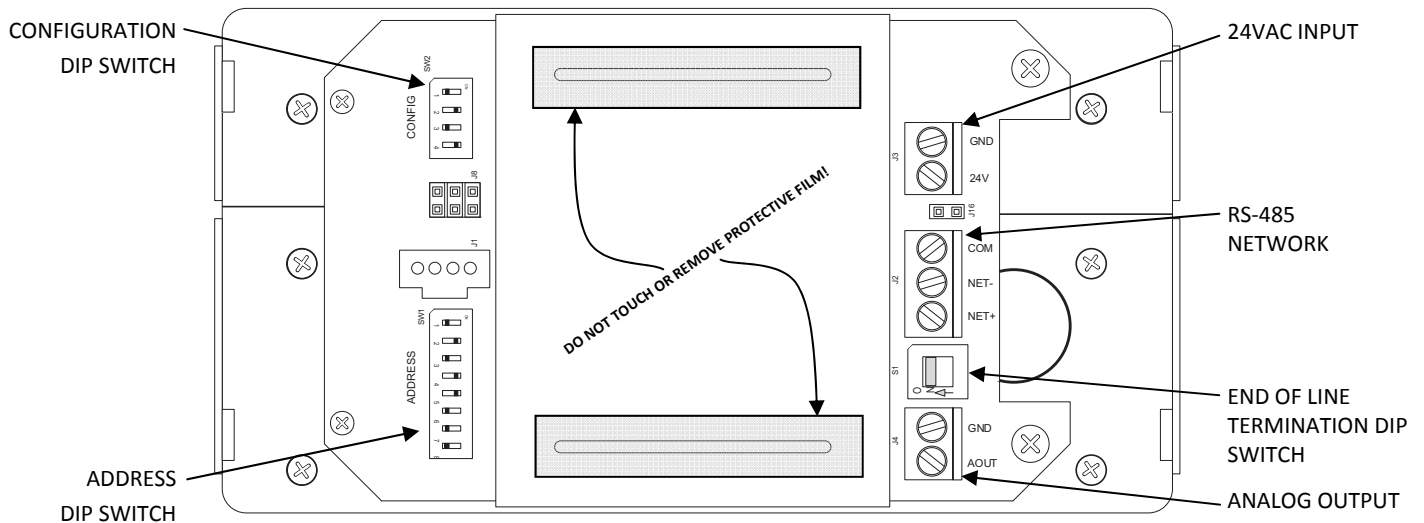

Figure 3. CENSUS Board Layout Detail
Remove the four (4) 6-32 cover screws, and remove the cover from the CENSUS. Place all these aside for safe keeping. Do not touch or remove the protective film that covers the IR sensor compartments. Figure 3 details the CENSUS main board layout and the locations of items that will be addressed.